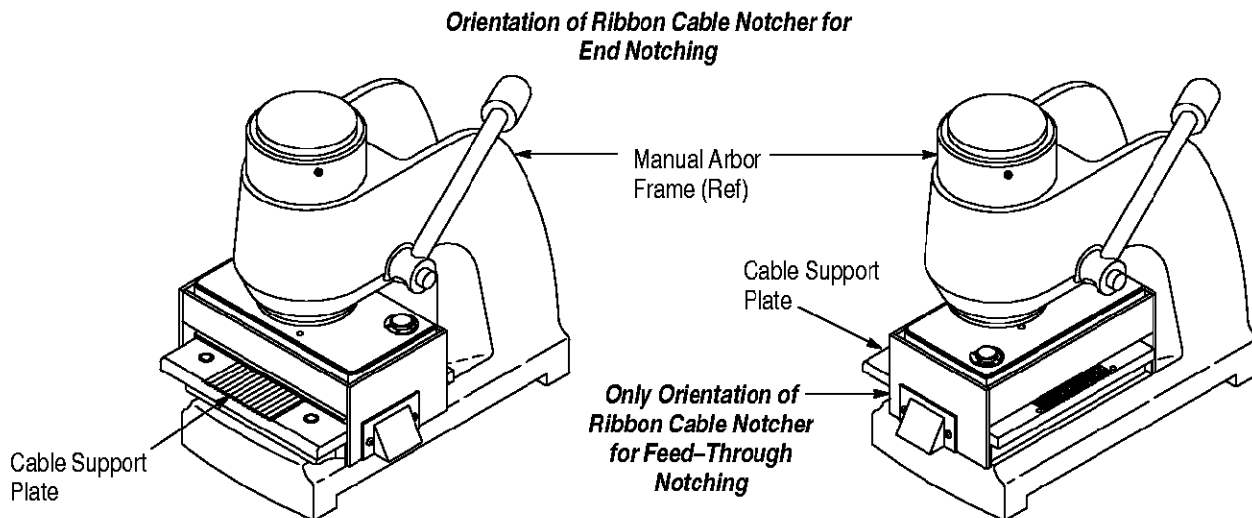

Figure 3
3. Place the notcher on the base of the frame, oriented according to type of notching. Refer to Figure 3. Install the four socket head cap screws onto the notcher from the underside of the frame.
CAUTION Make sure that the notcher is oriented in the power unit as shown in Figure 3.